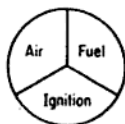

Fig. 11-1. Elements for combustion.
A Usually three (Fig. 11-1): (1) Accumulation of unburned fuel, (2) air and fuel in an explosive mixture, and (3) a source of ignition, such as hot furnace walls, improper ignition timing, faulty torch, and dangerous light-off procedures on manually started boiler combustion systems.